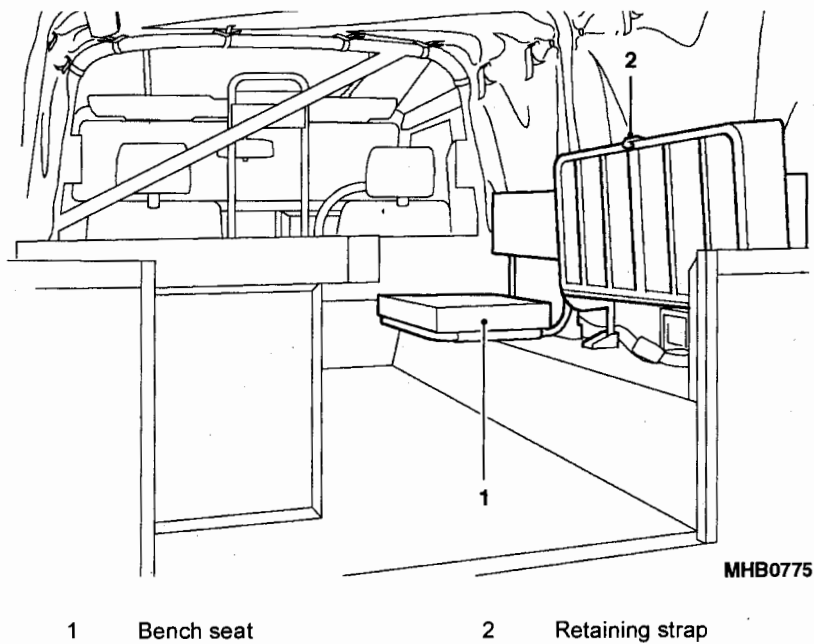

Fig 1 Bench seats
- 3 The seat cushions (Fig 1 (1)) can be stowed in an upright positions by means of a strap with a metal hook (2) which fastens to the side of the seat.